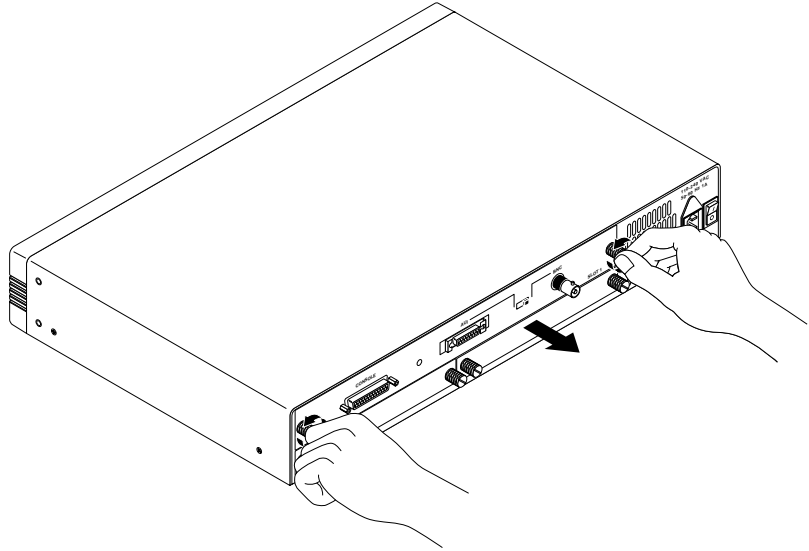

Figure 1 Removing the Main Processor Board.
- 1 Locate the two empty sockets near the right-hand connector on the rear of the main processor board (see Figure 1).